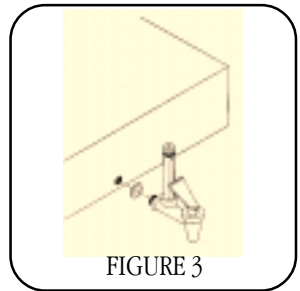
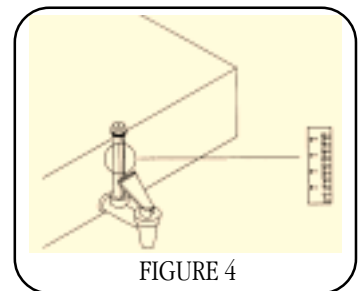

FIGURE 3
FIGURE 4
- Install the soft washer onto the threaded stem of the storage tank faucet. Insert the threaded portion of the storage tank faucet into the fitting on the front of the tank. (See figure 3). Rotate the faucet clockwise until tight. Carefully twist the faucet so the sight glass is in a vertical position. (See figure 4).